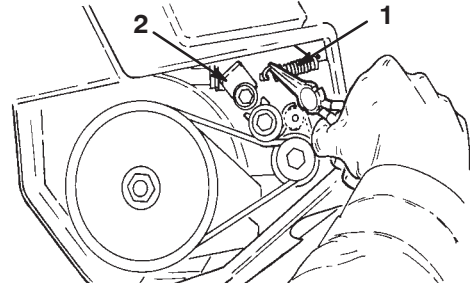

Figure 16
- Remove the idler spring from the idler arm (Fig. 16).
8. Assemble the idler spring (Fig. 16), ensuring that the idler pulley rides on the belt.